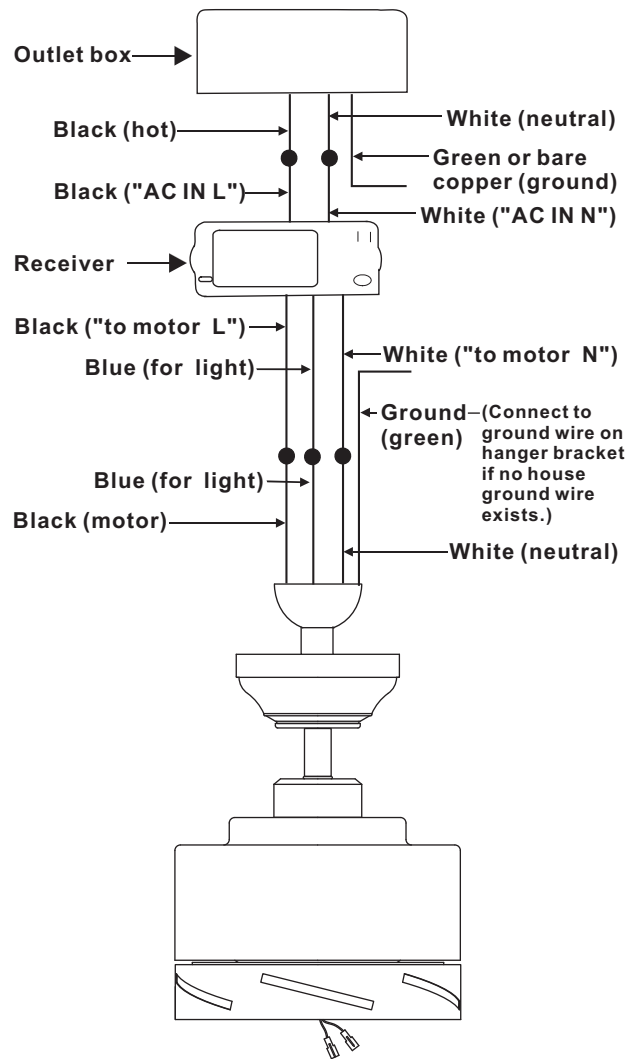

Figure 14
Step 2. (Figure 14) Motor to Receiver Electrical Connections: Connect the black wire from the fan to black wire marked "TO MOTOR L". Connect the white wire from the fan to the white wire marked "TO MOTOR N" from the receiver. Connect the blue wire from the fan to the blue wire marked "For Light" from the receiver. Secure the wire connections with the plastic wire nuts provided.
Step 3. (Figure 14) Receiver to House Supply Wires Electrical Connections: Connect the black (hot) wire from the ceiling to the black wire marked "AC in L" from the receiver. Connect the white (neutral) wire from the ceiling to the white wire marked "AC in N" from the Receiver. Secure the wire connections with the plastic wire nuts provided.
Step 4. (Figure 14) If your outlet box has a ground wire (green or bare copper) connect it to the fan ground wires; otherwise connect the hanging bracket ground wire to the mounting bracket. Secure the wire connection with a plastic nut provided. After connecting the wires, spread them apart so that the green and white wires are on one side of the outlet box and black and blue wires are on the other side. Carefully tuck the wire connections up into the outlet box.